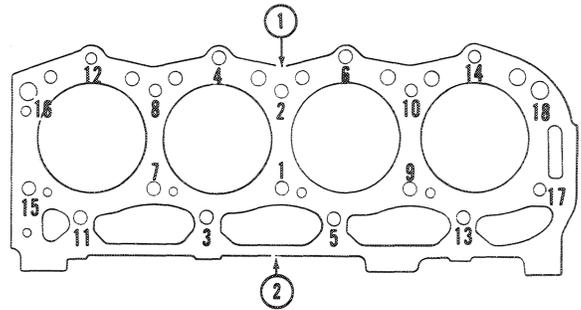

Figure 17
5. Tighten the cylinder head bolts in the proper sequence, as shown in Figure 17. Tighten the bolts progressively in three steps; first to 90 lbs. ft. (121.9 Nm), then to 100 lbs. ft (135.5 Nm), and finally to 110 lbs. ft. (149.0 Nm).